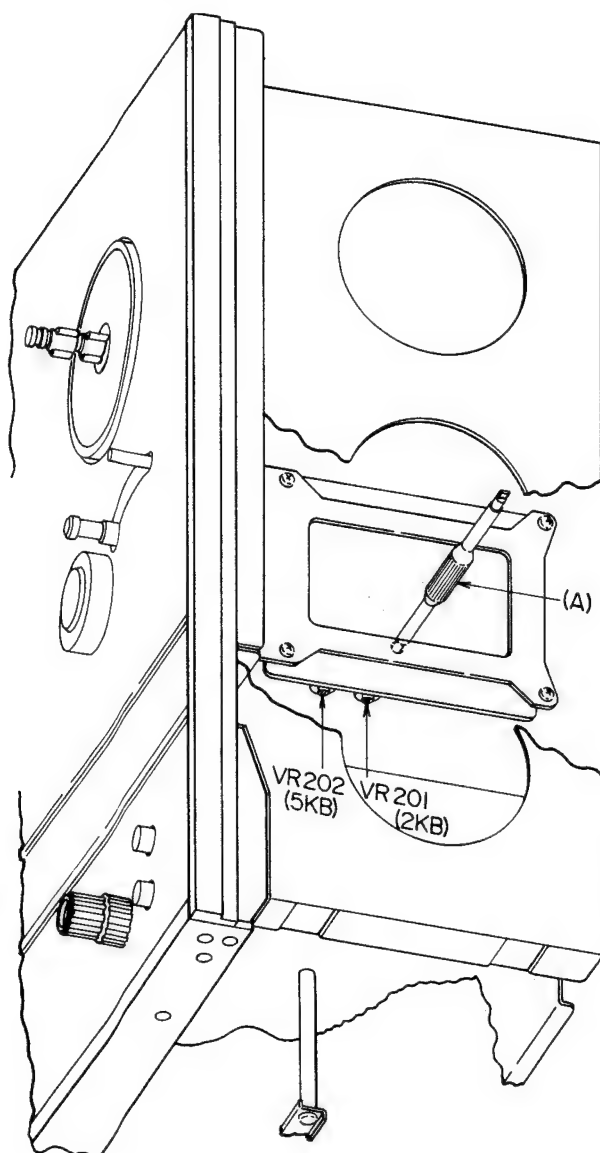

Fig. 5-4
- 2) Adjust L 201 transformer core so that the Frequency Counter Indication is 250 Hz $\pm 1\%$ (see Fig. 5-4, point A).